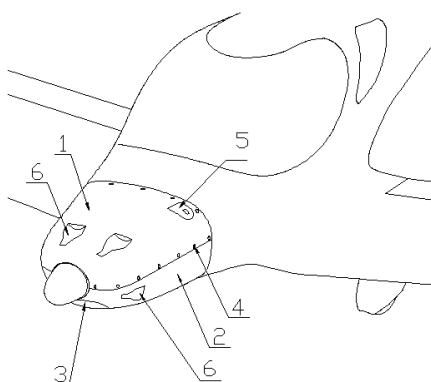

Fig. 10-2
Engine cowling (Fig. 10-2) consists of two parts: upper cowling and lower cowling. The upper cowling (1) is attached by means of quick fasteners (4) to the firewall and to the lower cowling (2). Unlock the quick fasteners by turning the bolt by 90° counter-clockwise. The access cover (5) which is located on the upper cowling on the left side in front of the firewall enables to check oil quantity in the oil tank without removing the upper cowling.